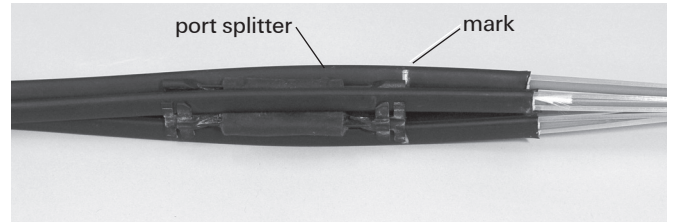

Figure 10
3. Line up the top of the port splitter with the 3.50" mark on the cable sheath. (Figure 10)
4. If required, insert other cable(s) in any slot of the port splitter. (Figure 10)